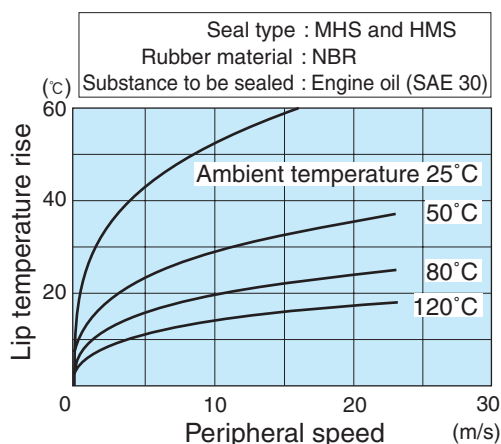

Fig. 1.6.2 Estimated lip temperature rise curves
- ② Determine the supposed ambient temperature
- ③ Find the point at which the ambient temperature curve meets the calculated shaft surface speed in Fig. 1.6.2
- ④ Read the ordinate value of the point
- ⑤ Obtain the estimated lip temperature by the sum of the ordinate value and ambient temperature
In Fig. 1.6.2, the cross of the curve for ambient temperature 80 °C and peripheral speed 10.5 m/s indicates that the lip temperature rise will be 20 °C.